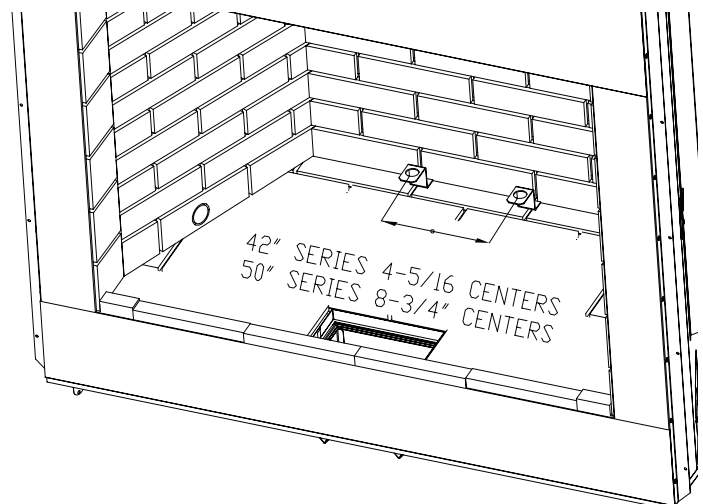

Figure 25 - Installing Grate Retainers
1. Place the provided grate retainers on the hearth as shown in Figure 25. The back of the retainer will be flush with the rear firebrick wall. Mark the center of the hole on the hearth with a marker.
2. Position "Z" shape retaining brackets on top of the notched area toward the rear of the bottom brick panel. Grate retaining bracket should be positioned as shown in Figure 25, page 14.